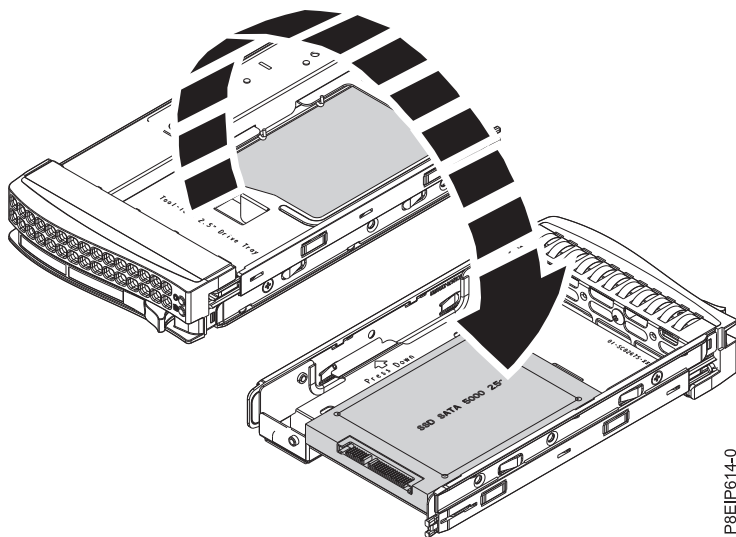
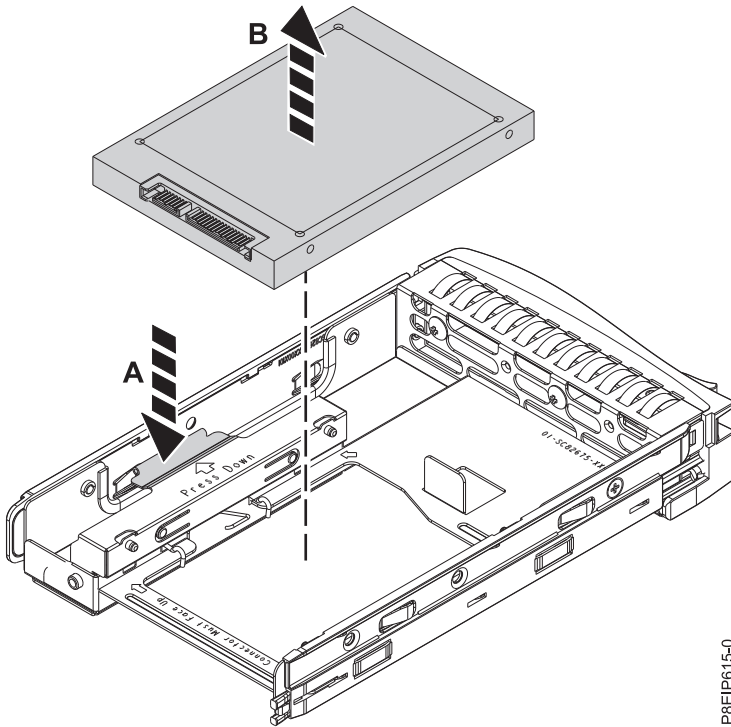

Figure 3. Turning the 2.5-inch tray upside-down
Figure 4. Removing the 2.5-inch drive from the tray
- a. Turn the tray upside down as shown in Figure 3.
- b. Open the retention spring (A).
- c. Lift the 2.5-inch drive (B) out of the tray as shown in Figure 4 on page 6.